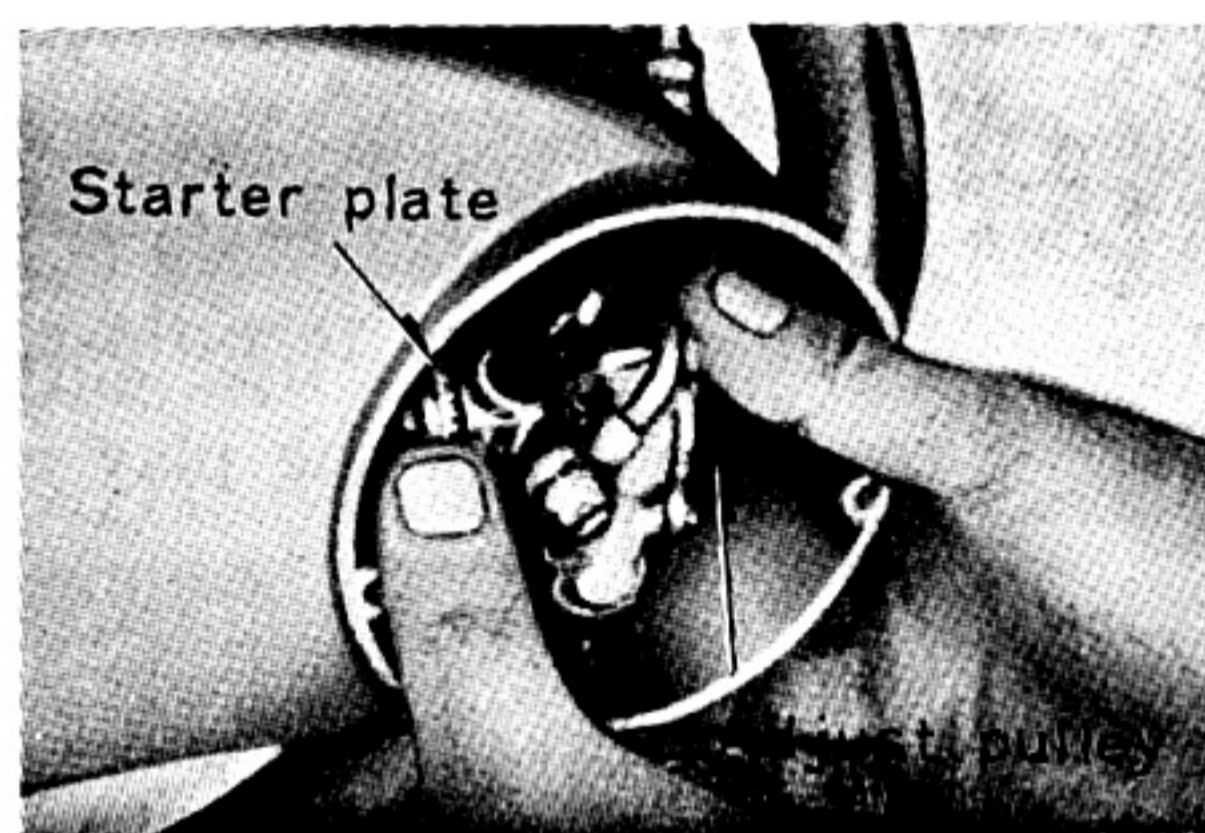

Fig. 2-2-1
- Remove the bleeder bolt, and rotate the starter plate (manual feed wheel) clockwise to feed oil through the pump. Hold the adjusting pulley back (pull the pump cable) to let the plunger pump at maximum stroke. As you turn the starter plate, oil will begin flowing out of the bleeder hole. When air bubbles no longer appear in the oil, you can install and tighten the bleeder bolt. (Fig. 2-2-1)